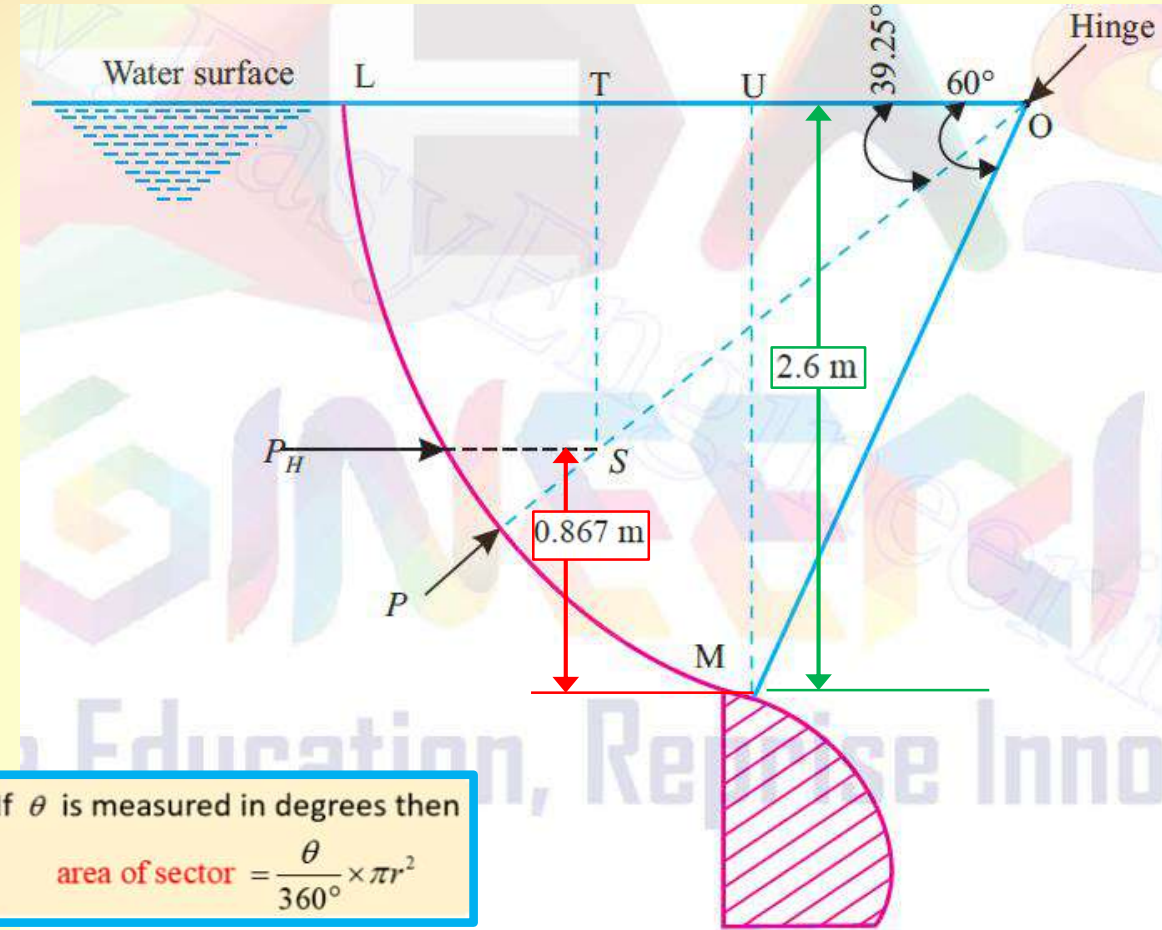

Fig. 3.49
**Example 3.38.** Fig. 3.49 shows a radial gate. If it is 3 m long, find the magnitude and direction of the resultant force acting on it.
Refer to Fig. 3.49.